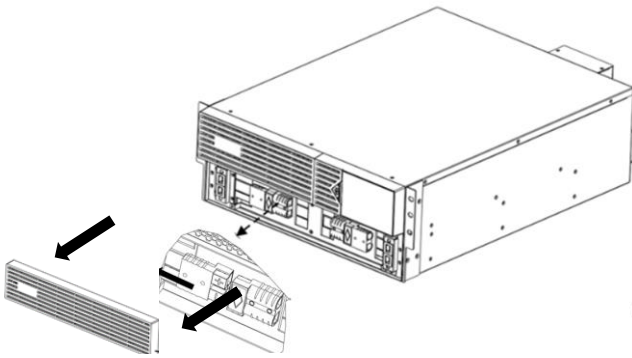
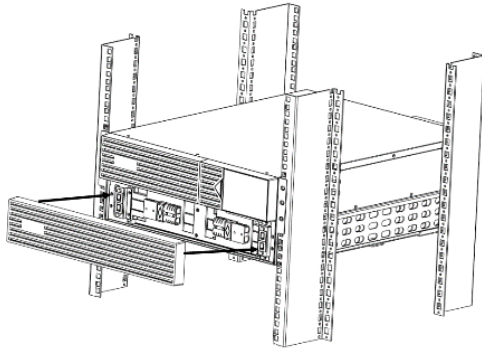

Figure 1
Figure 9
1. Remove the internal battery modules of the UPS: Pull the front panel cover of the battery housing cage from the UPS and separate the battery module connectors. (Fig. 1)
7. Re-attach the front panel cover (Fig. 9)
Remove the battery cover panel of the UPS by pulling the panel out from the front of the UPS, no tools are required, (FIG. 1). Align the Black Anderson connector and push together. Reattach the front panel battery cover, (FIG. 9).